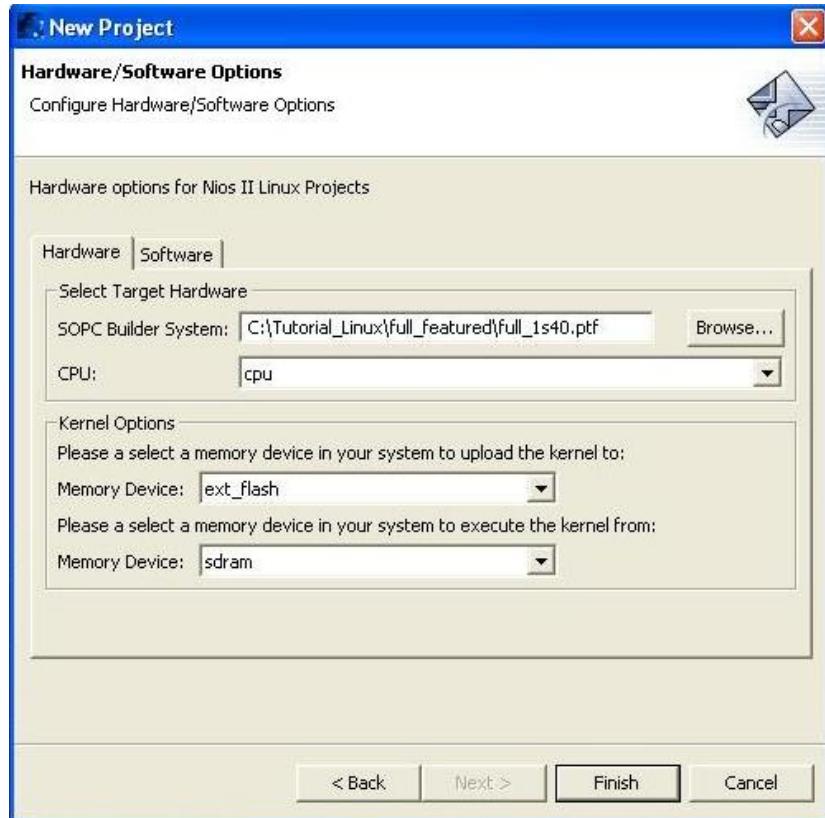

Figure 9: Creating a Linux Kernel Project Continued
- As shown in Figure 9, in the **Hardware** panel specify the .ptf file in the **SOPC Builder System** field. This .ptf file was generated in the Quartus II project in Section 4. In this tutorial, the file is: